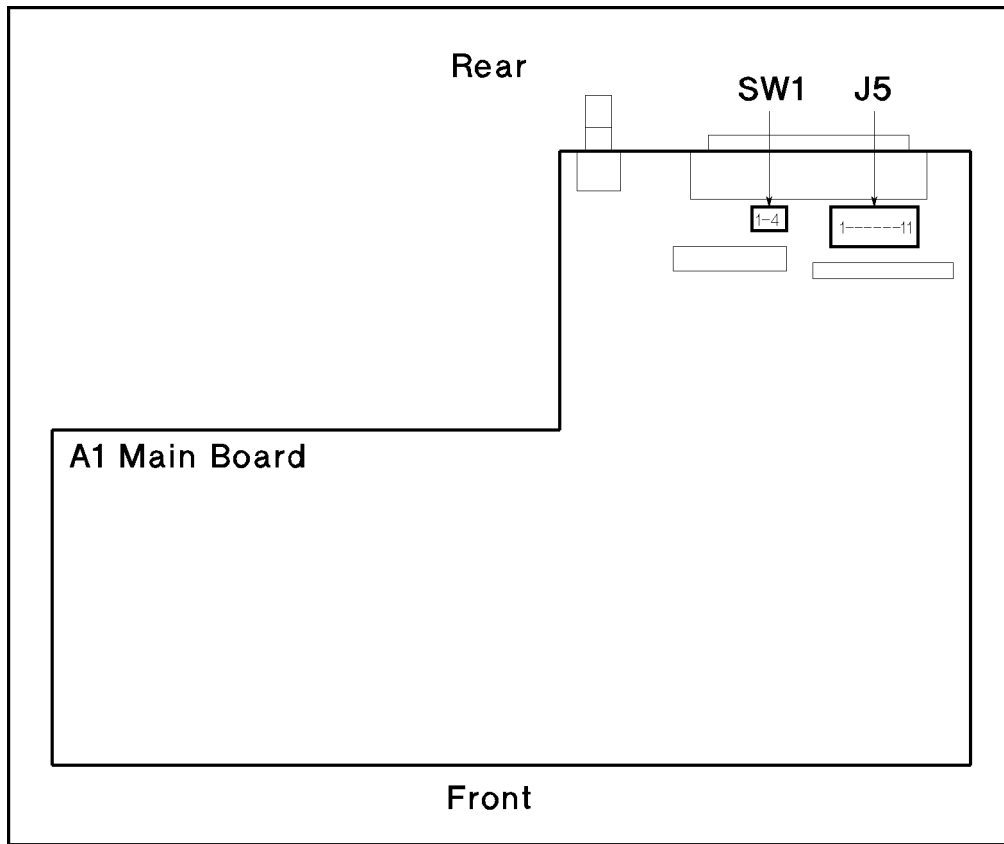

Figure B-4. A1 Main Board Location
Figure B-4 shows the location of the socket for the pull-up resistors (J5) and the switch for EXT DCV2 voltage setting (SW1). Table B-3 lists the location of the pull-up resistors.
6. Mount the pull-up resistors for the comparison output signals. (Refer to Figure B-4 and Table B-3 for the location of the pull-up resistors for the comparison output signals.) Use the following equation to determine the value of the pull-up resistors (R).
7. Mount the pull-up resistors for the control output signals. (Refer to Figure B-4 and Table B-3 for the location of the pull-up resistors for the control output signals.) Use the following equation to determine the value of the pull-up resistors (R).